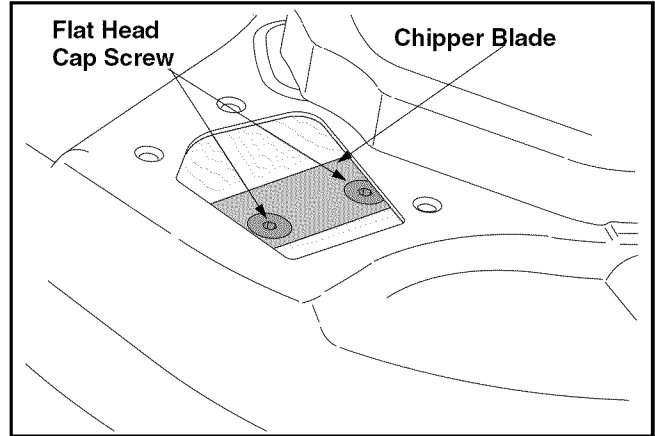

Figure 24
- Using a 3/16" allen wrench, remove the flat head cap screws that hold the chipper blade to the impeller. These screws are accessible through the opening created when the chipper chute was removed earlier. See Figure 24.